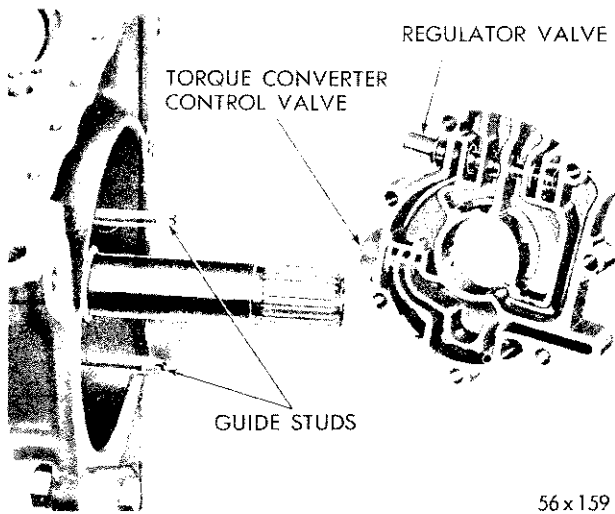

Fig. 36—Installing Regulator Valve Body
(1) Place the transmission regulator valve and torque converter control valve in the regulator valve body. (Refer to Fig. 36.)
(2) Install guide studs, Tool C-3288 (if removed), in front of transmission case, position new regulator valve body gasket and valve body assembly (with oil passages to rear) over torque converter reaction shaft. Seat firmly against gasket on front of transmission case. Use extreme care when placing regulator body in position to prevent reaction shaft screws from damaging passages in regulator body.